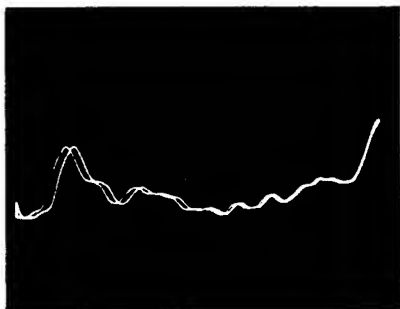

Figure 4-7. Typical Display
- f. Adjust oscilloscope and RF Plug-in POWER LEVEL control for display similar to typical display shown in Figure 4-7.